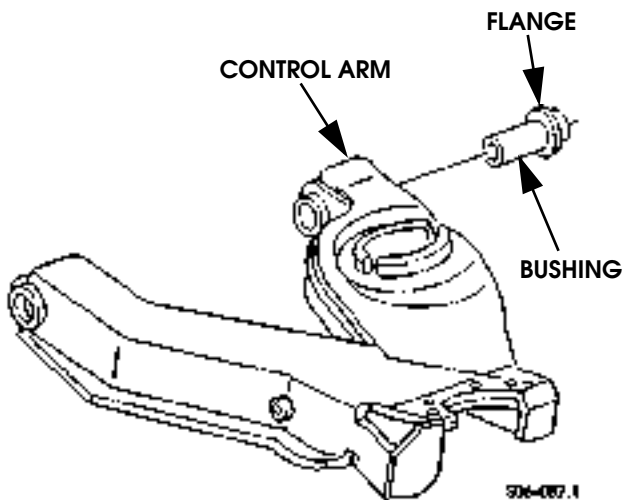

Figure 9-11: Control Arm Bushing Replacement
NOTE: Control arm bushings must be replaced as a set (Figure 9-11).
2. Insert bushing in control arm (Figure 9-11).